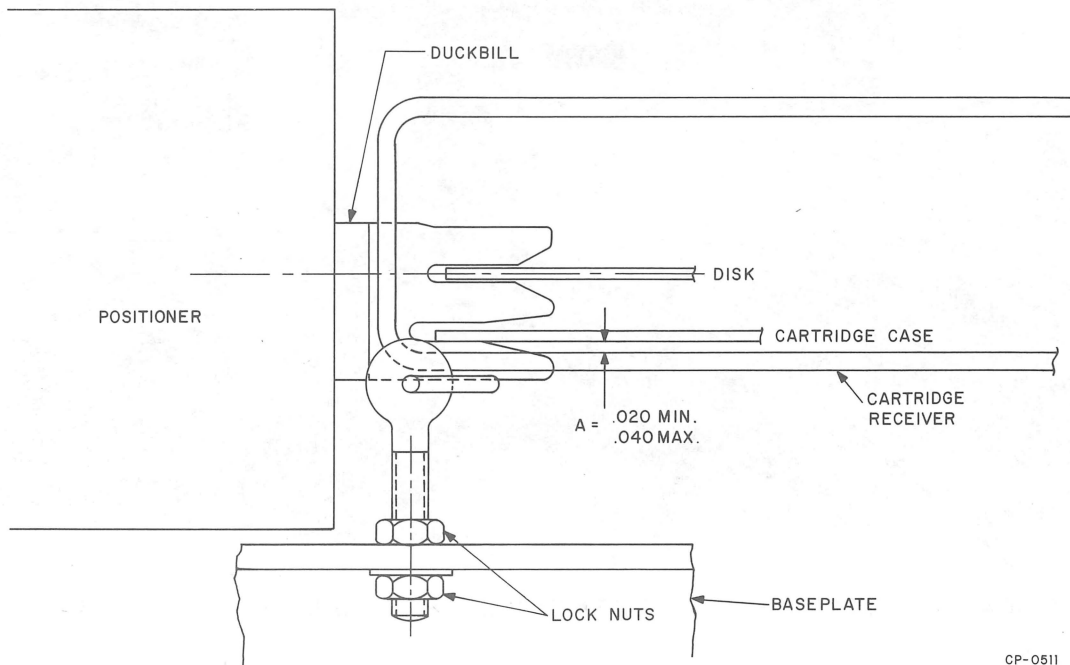

Figure 5-21 Cartridge to Receiver Clearance
3. Check for a .020 to .040 in. clearance (A) between the plastic cartridge case and the receiver rails (Figure 5-21). Make this measurement towards the rear of the receiver at a point where the plastic cartridge case passes over the intersecting receiver rails.